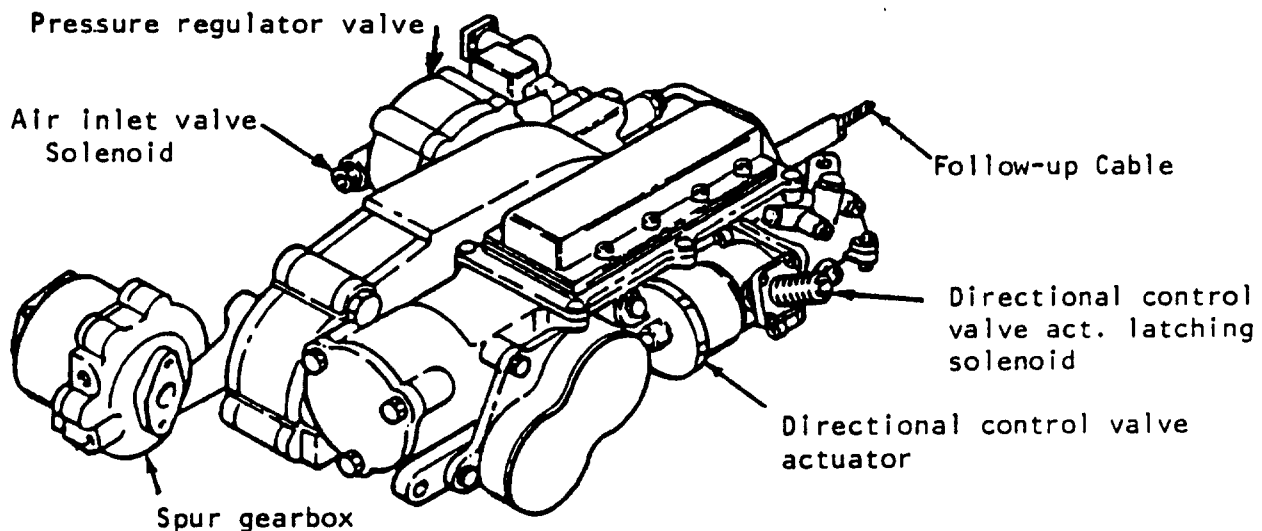

Figure 1 - Pneumatic Actuator Assembly
1. Description. The pneumatic actuator assembly (see Figure 1) is mounted in the aft nacelle at the 6 o'clock position just forward of the translating structure. The actuator assembly includes an air pressure regulator/shutoff section, a directional control section and an air motor; all integrated to provide rotational force to deploy and stow the reverser on cockpit command. The pneumatic actuator assembly uses engine bleed air as its power source and electrical signals from cockpit controls determine when and in what direction the actuator operates. A spur gearbox is mounted to the output drive of the actuator to reduce output speed of the air motor and to transmit the rotational force through flexible drive shafts to the pinion gearboxes.